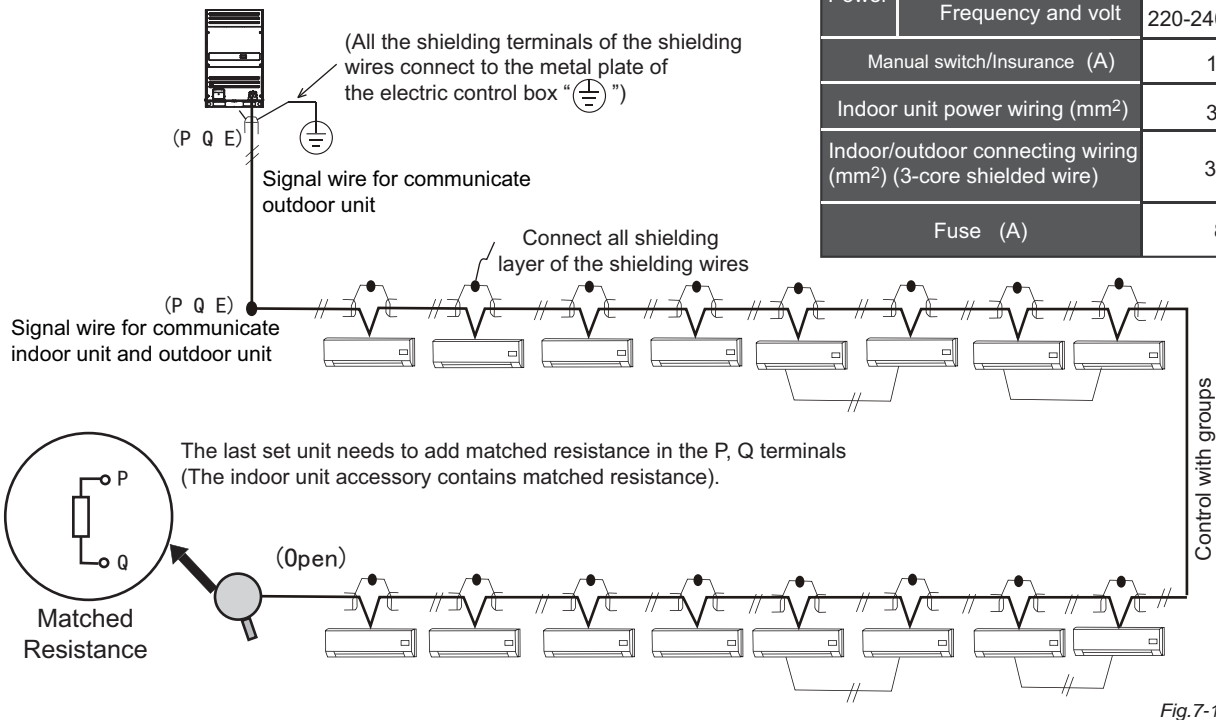

Fig.7-1
- 1 Take out the faceplate,then dismantle the electronic control cover plate.(see Fig.7-1)